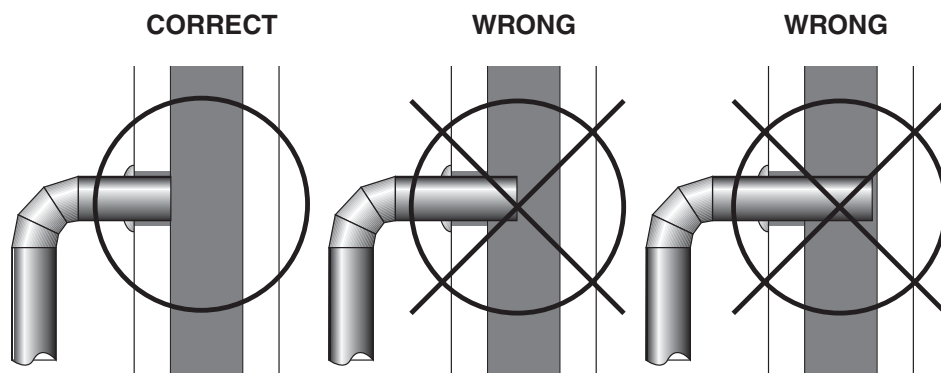

Figure 4 – Stovepipe/Flue Connections
1. The smooth end of the stovepipe fits over the stove flue collar. Secure with three (3) sheet metal screws. The first section of connector pipe must be single walled to properly attach to the stove collar. Install additional pipe and elbow with the crimped end towards the stove. This will allow any condensation in the flue to run back into the firebox.
4. The pipe cannot extend into the chimney flue (figure 4).
6. It is recommended that no more than two (2) 90° bends be used in the stovepipe installation. The use of more than two 90° bends may decrease the amount of draw and possibly cause smoke spillage. Where possible, use only corrugated (non adjustable) elbows. These provide a better seal.
4. Install the stovepipe into the thimble as far as possible without extending past the flue lining (see figures 4 & 5 on pages 8 & 9).